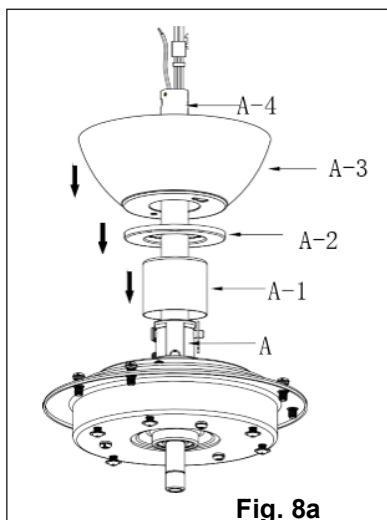

Fig. 8a
- Insert the coupling cover (A-1) onto the down rod (A-4) to cover the down rod coupling (A). **(Fig. 8a)**